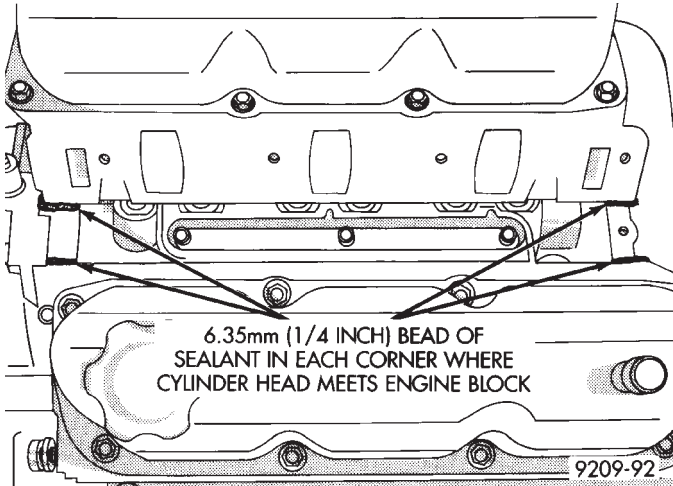

Fig. 35 Intake Manifold Gasket Sealing
(1) Clean all surfaces of cylinder block and cylinder heads.
(2) Place a drop (about 1/4 in. diameter) of Mopar Silicone Rubber Adhesive Sealant or equivalent, onto each of the **four** manifold to cylinder head gasket corners (Fig. 35).